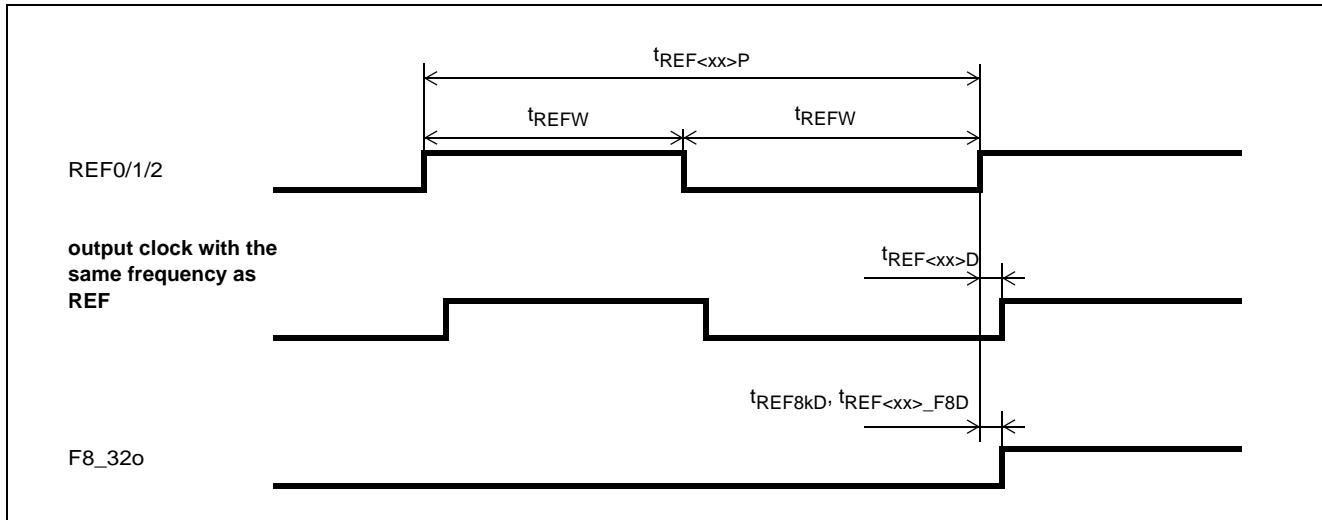

Figure 27 - REF0/1/2 Input Timing and Input to Output Timing
**AC Electrical Characteristics\* - Input timing for REF0, REF1 and REF2 references (see Figure 27).**
**AC Electrical Characteristics\* - Input to output timing for REF0, REF1 and REF2 references when TIE\_CLR = 0 (see Figure 27).**